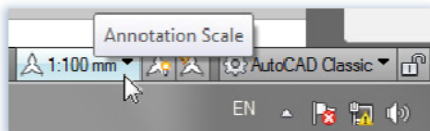

Figure 3
- At the Status Bar (the right bottom of the screen) select the proper **Annotation Scale** for the drawing. (Figure3)